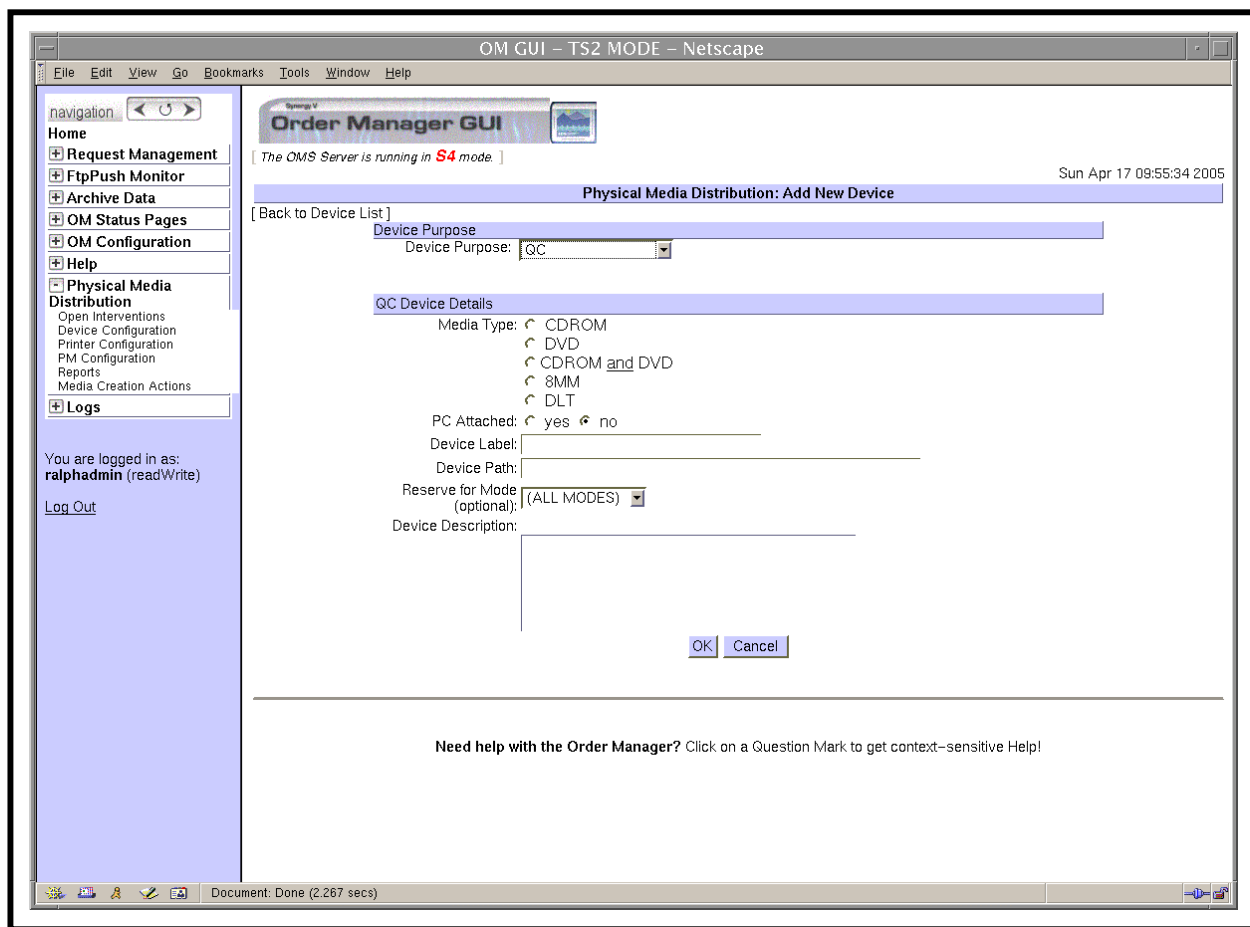
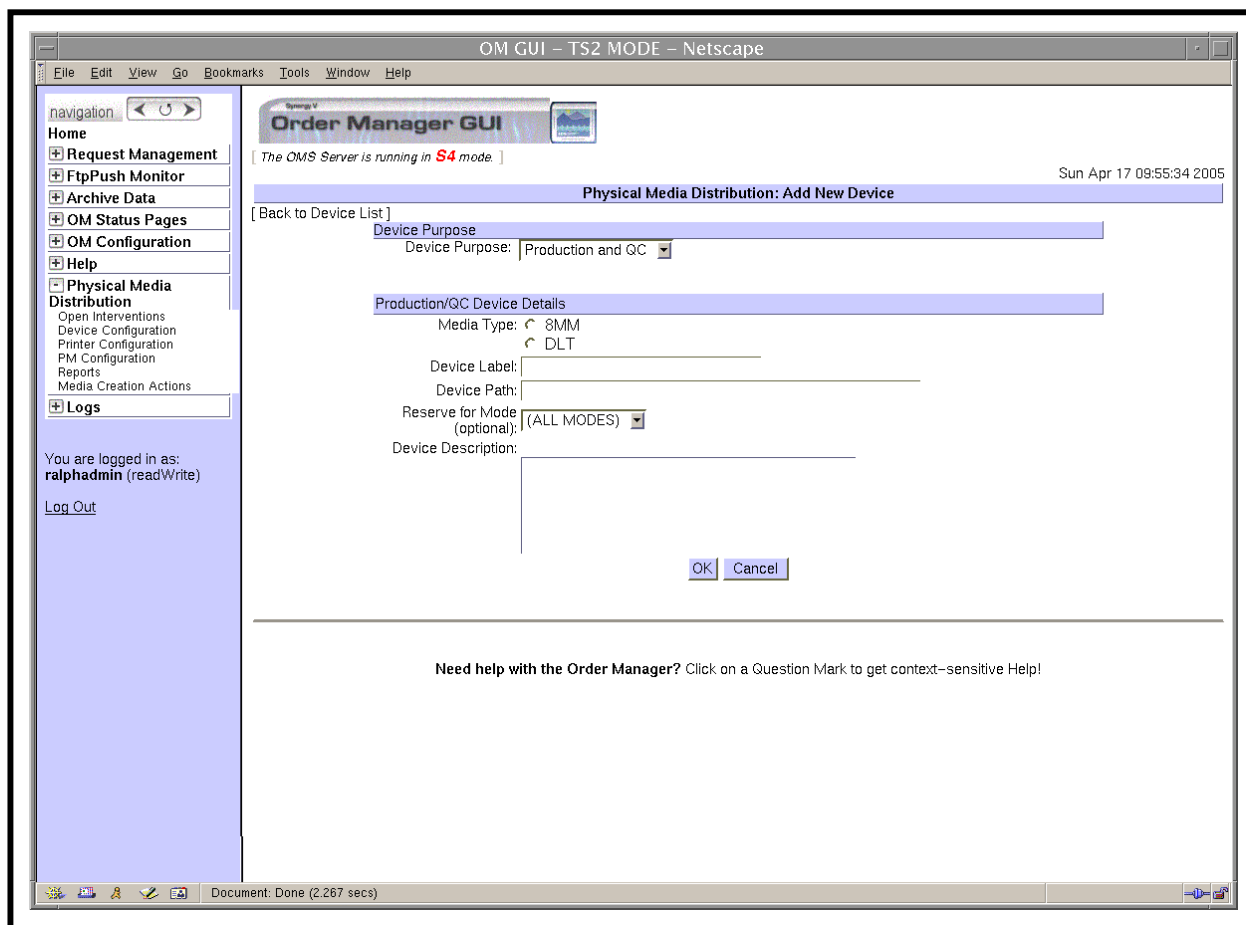

Figure 80. Add New Device Page - QC
Figure 81. Add New Device Page – Production and QC
- If **QC** or **Production and QC** was selected, the corresponding **Device Details** page (Figure 80 or Figure 81) is displayed.